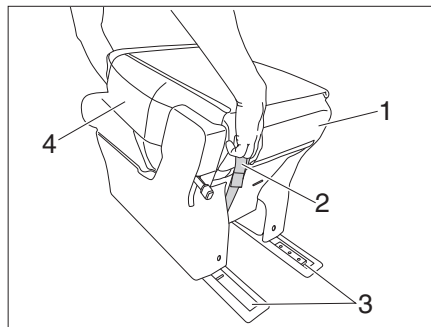

Fig. 28 Install the seat
- Lift the seat (Fig. 28,1) at the red strap (Fig. 28,2) and place it into the rails (Fig. 28,3).
- Check whether the seat (Fig. 28,1) has latched in correctly.
- ▷ The backrest (Fig. 28,4) of the seat cannot be set upright until the seat has latched correctly into the rails.
- Pull the red strap (Fig. 28,2) and at the same time lift the seat at the backrest (Fig. 28,4).
- Lift the bench seat at the seat cushion and backrest (Fig. 28,4) and carry it out of the vehicle.